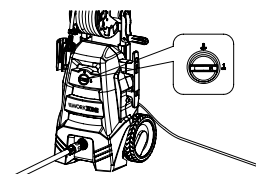

Figure 10
4. Set the ON/OFF switch **5** to ON to switch the 2.2 kW high pressure washer **6** on (see **fig. 10**).